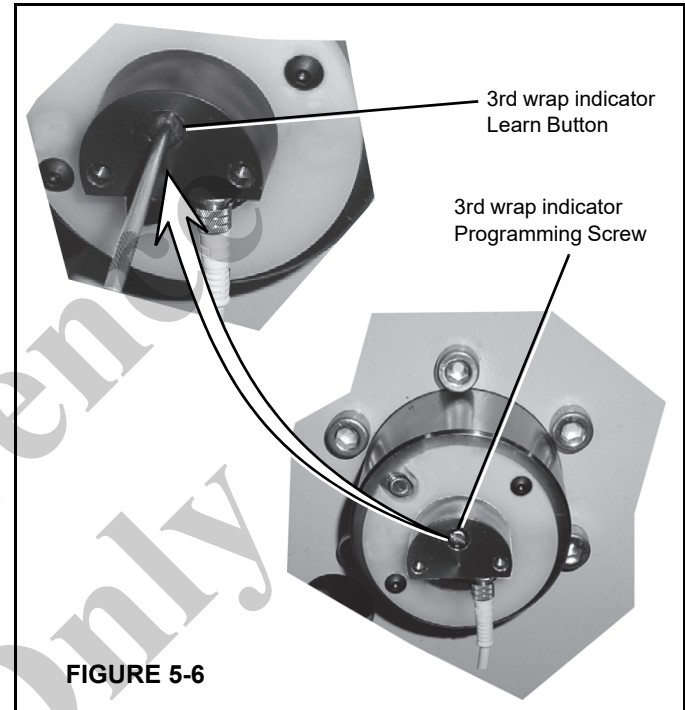

FIGURE 5-6
2. Remove the programming screw on the DRI as shown in Figure 5-6.
4. With a ballpoint pen or small punch, push and hold the learn button (Figure 5-6) and return power to the 3rd wrap indicator by reconnecting the DRI cable.